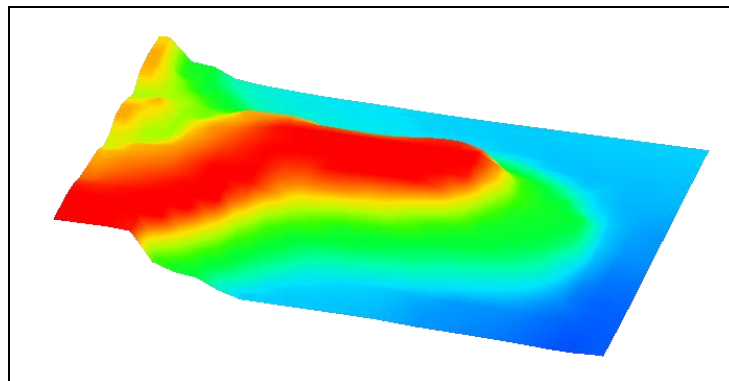

Figure 18 Oblique view of grid with contour options enabled
12. Select *Display / View* | **Oblique** to see how the depth dataset was interpolated to the grid. It should appear similar to Figure 18.